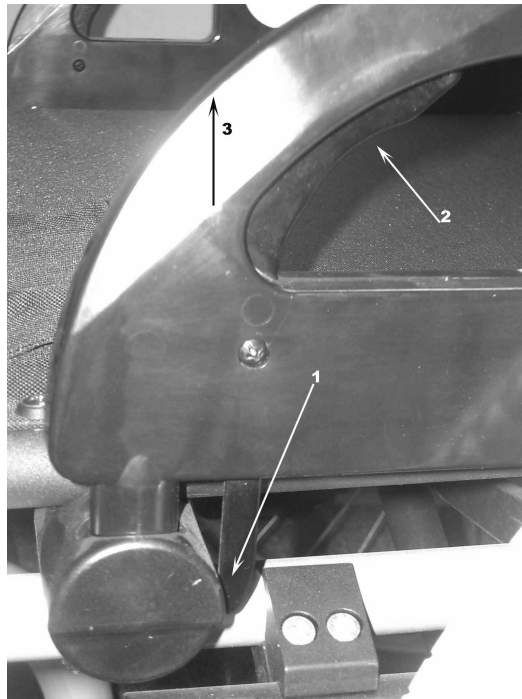

Fig. 4
The armrests can be also inclined upwards, which ease getting in and out of the chair (Fig.4). To unblock the safety-lock (1) one should press the lever (2) placed on the side of the armrest and then lift the side panel up (3). After lowering the armrest and placing it on the guide bar, the safety-lock (1) block self - actively.